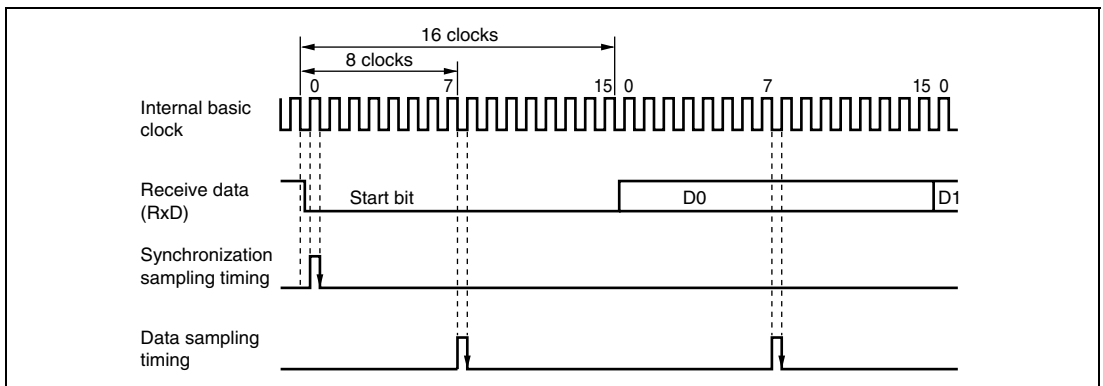

Figure 14.20 Receive Data Sampling Timing in Asynchronous Mode
In asynchronous mode, SCI3 operates on a basic clock with a frequency of 16 times the transfer rate. In reception, SCI3 samples the falling edge of the start bit using the basic clock, and performs internal synchronization. Receive data is latched internally at the rising edge of the 8th pulse of the basic clock as shown in figure 14.20. Thus, the reception margin in asynchronous mode is given by formula (1) below.